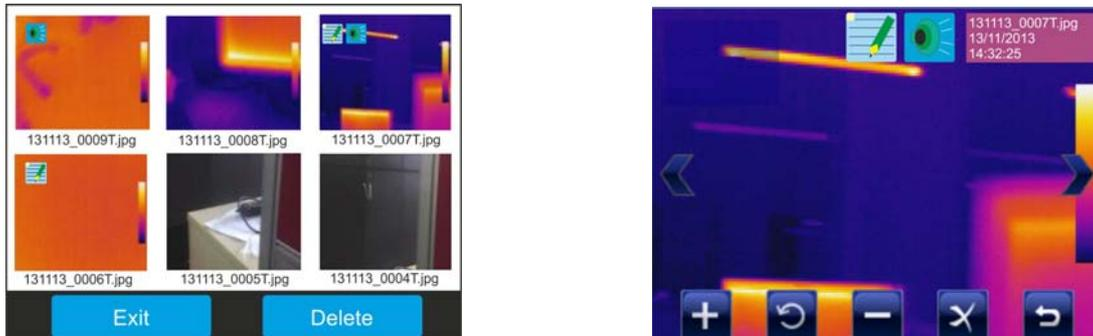

Fig. 65: Recalling on the display the images saved
1. Touch the icon  in the main menu. The following screen appears (see Fig. 65 – Left side):
4. Touch an image in the gallery to see it again. The screen Fig. 65 – Right side is shown on the display. The meaning of the symbols is the following: